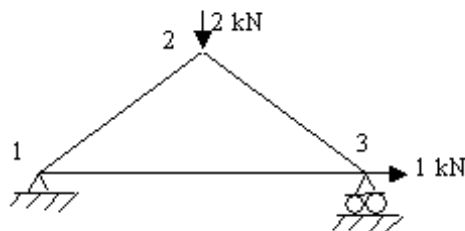

Figure 5:
6. Determine the nodal displacements, element stresses and reactions of the truss, shown in figure 5 below, by FEM. Assume $A = 100 \text{ mm}^2$, $L = 2 \text{ m}$ and $E = 200 \text{ GPa}$ for all the three members. [16]